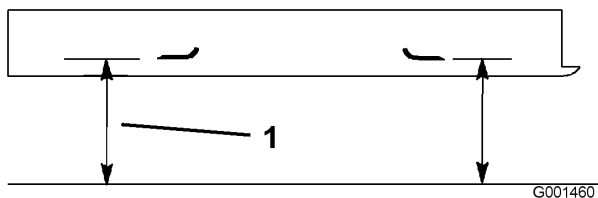

Figure 57
2. Measure from a level surface to the cutting edge, position A, of the blades (Figure 57). Note this dimension.